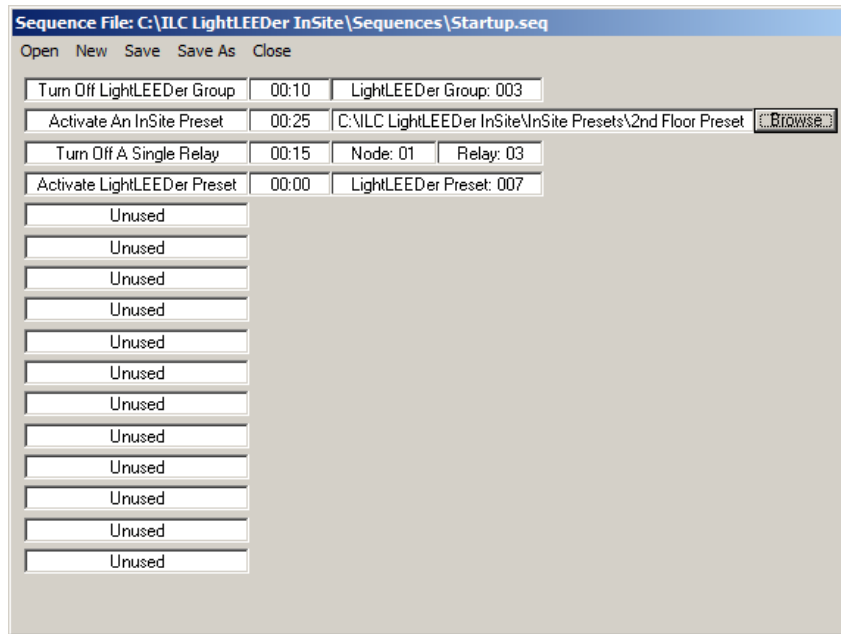

Figure 2.14 Defining a Sequence
2. Select the first unused control, and then select the control desired as shown in figure 2.14.